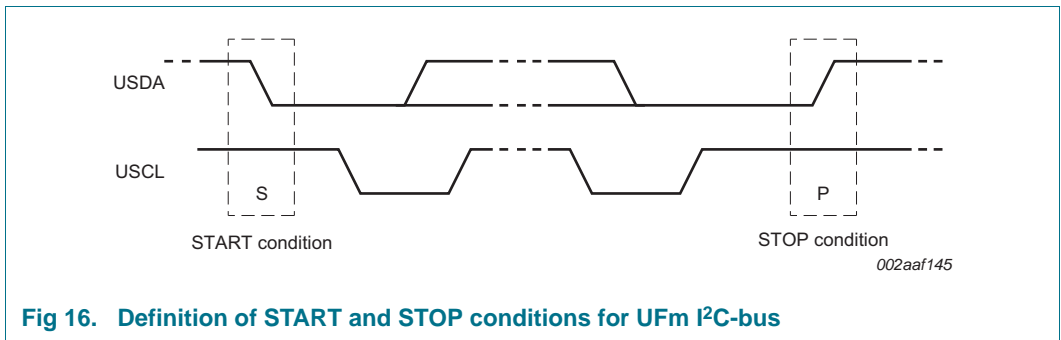

Fig 16. Definition of START and STOP conditions for U^Fm I²C-bus
Both data and clock lines remain HIGH when the bus is not busy. A HIGH-to-LOW transition of the data line while the clock is HIGH is defined as the START condition (S). A LOW-to-HIGH transition of the data line while the clock is HIGH is defined as the STOP condition (P) (see Figure 16).